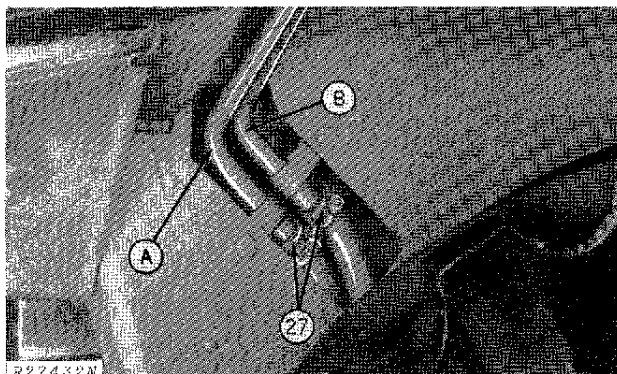

Fig. 18-Disconnecting Heater Hoses
*NOTE: Identify supply and return hoses for proper installation (Fig. 18).*